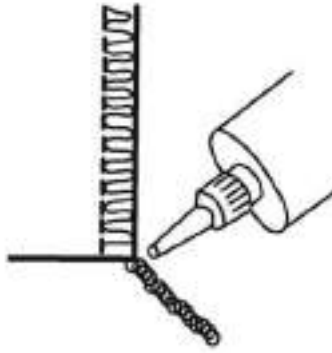

Figure 7. A seam end can be secured with seam fixative glue.
- Use a seam fixative to glue the thread ends at the end of each seam. This is especially useful when seams are crossed by other stitching (Figure 7).